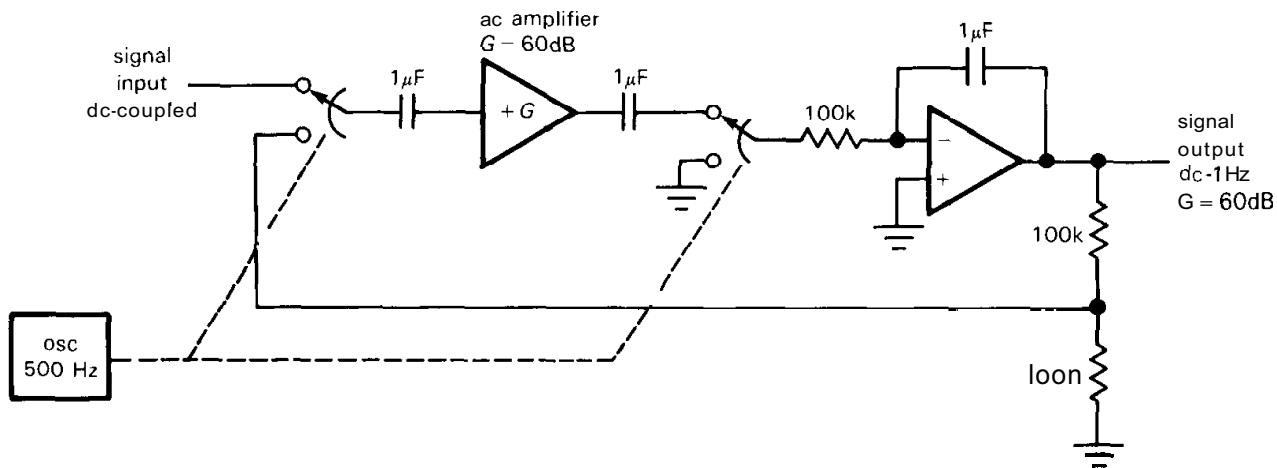

Figure 7.21. An ac-coupled chopper amplifier.
□ *ac-coupled "chopper amp."* When considering auto-zeroing chopper amplifiers, be sure you don't confuse this technique with another "chopper" technique, namely the traditional low-bandwidth chopper amplifier in which a small dc signal is converted to ac ("chopped") at a known frequency, amplified in ac-coupled amplifiers, then finally demodulated by multiplying with the same waveform used to chop the signal initially (Fig. 7.21). This scheme is quite different from the full-bandwidth auto-zeroing technique we've been considering in that it rolls off at signal frequencies approaching the clock frequency, typically just a few hundred hertz. You sometimes see it used in chart recorders and other low-frequency instrumentation.